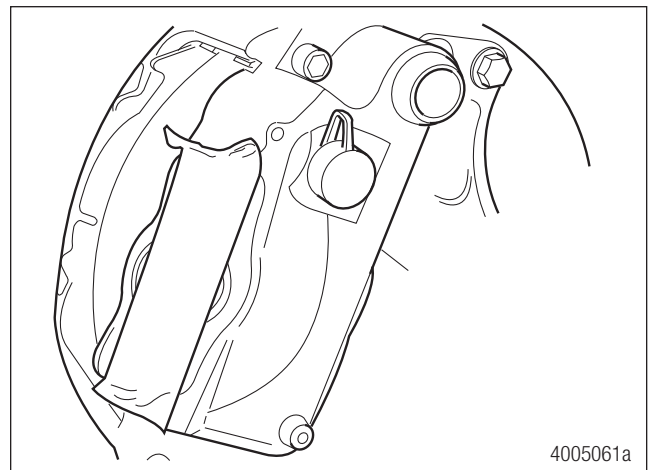

Figure 9.2
2. Cover the exposed air chamber mounting aperture with tape to prevent debris from entering the caliper housing assembly. Figure 9.2.